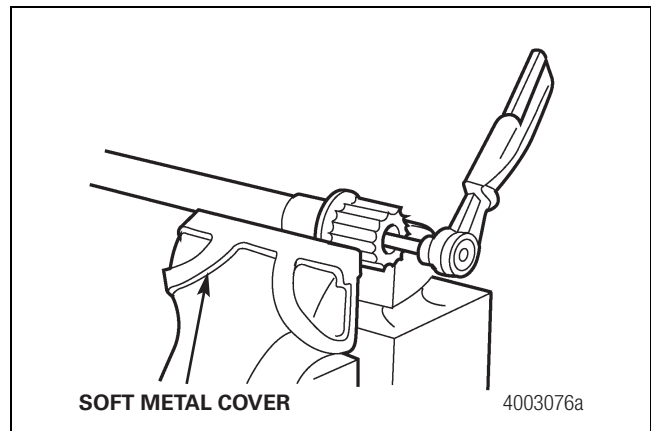

Figure 3.46
2. Clamp the sun gear and shaft assembly in a vise with a soft metal cover to protect the sun gear teeth. Apply Loctite® 242 threadlocker to the threads of the sun gear-to-shaft capscREW. Install the capscREW and tighten to 150 lb-ft (203 N•m). Figure 3.46. **ⓘ**